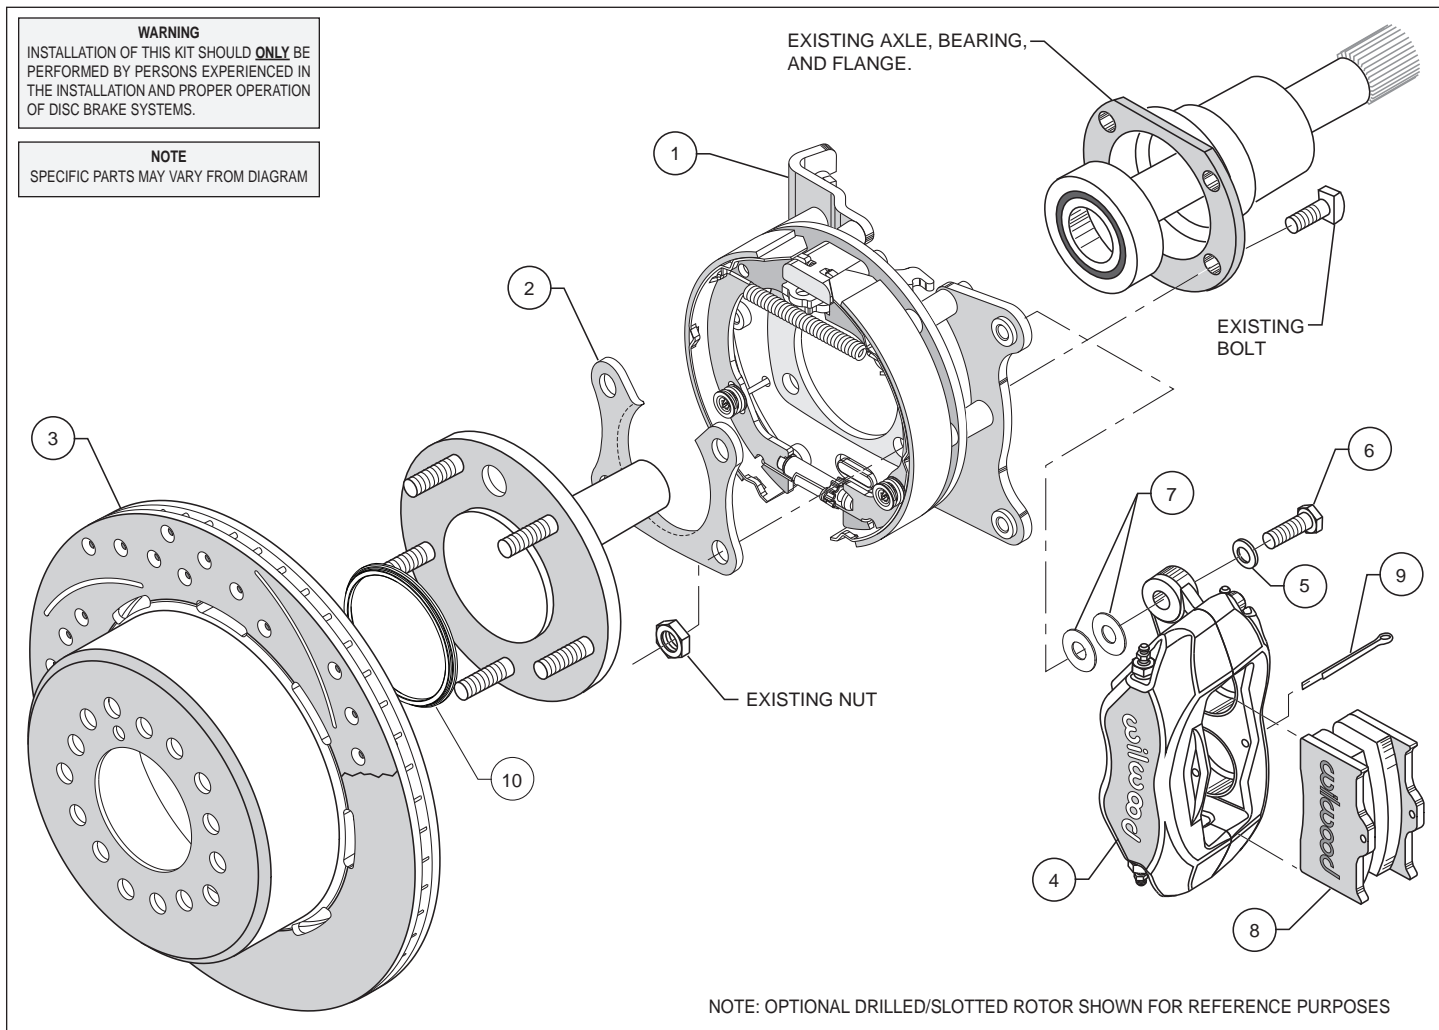
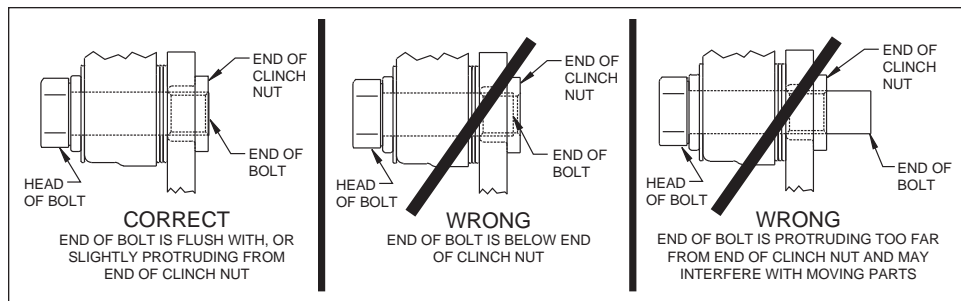

Figure 1. Typical Installation Configuration
Figure 5. Clinch Nut Engagement Diagram
**Assembly Instructions** (numbers in parenthesis refer to the parts list, and Figure 1 on the preceding pages): **CAUTION:** All mounting bolts must fully engage clinch nuts. Be sure to check that all bolts are either flush or protruding through flanged side of clinch nut after shimming, Figure 5.
- Orient the bracket assembly (1) as shown in Figure 1, and Photo 1, and slide it onto the axle. Insert the axle and bracket into the axle housing. Ensure that the bracket assembly backing plate fits flush against the axle housing flange.
- Install the bearing retainer (2) with the opening pointing upward and the lip facing inward (toward the bearing), as shown in Figures 1 and 4, and Photo 2. Secure retainer and bracket assembly to the axle housing flange using the Original Equipment Manufacturer (OEM) bolts and nuts, Figure 1. Apply red *Loctite*® 271 to the OEM bolt threads and torque to OEM specifications.
•Slide the rotor registration adapter (10) onto the axle register on the axle flange with the smaller O.D. facing toward the rotor/hat (3), Photo 3. Align the correct hole pattern in the rotor/hat with the stud pattern on the axle flange and slide into place, Figure 1 and Photo 4. **NOTE:** The rotor/hat must fit flush against the axle flange or excessive rotor run out may result. Install three lug nuts (finger tight) to keep the rotor/hat assembly in place while continuing with the installation. **NOTE:** Some OEM and after market axles come with stud sizes larger than 0.50" diameter. Verify stud size and have a qualified machine shop drill the bolt circle of the hat/rotor to the correct stud size, if necessary.
•**NOTE:** Please reference the caution statement at the beginning of the assembly instructions. Mount the caliper (4) onto the caliper mounting bracket (1) using bolts (6) and washers (5), as shown in Figure 1. Initially place two .035" thick shims (7) on each bolt between the caliper and the bracket, Photo 5. Temporarily tighten the mounting bolts and view the rotor (3) through the top opening of the caliper. The rotor should be centered in the caliper, Photo 6. If not, adjust by adding or subtracting shims between the bracket and the caliper. Always use the same amount of shims on each of the two mounting bolts. **NOTE:** The end of each bolt must be flush with or slightly protruding from the head of the clinch nut, as shown in Figure 5. If necessary place spare shims between washer (5) and caliper mounting ear to achieve the proper clinch nut engagement. Once the caliper alignment and clinch nut engagement are correct, remove the bolts one at a time, apply red *Loctite*® 271 to bolt threads, and torque to 40 ft-lb.